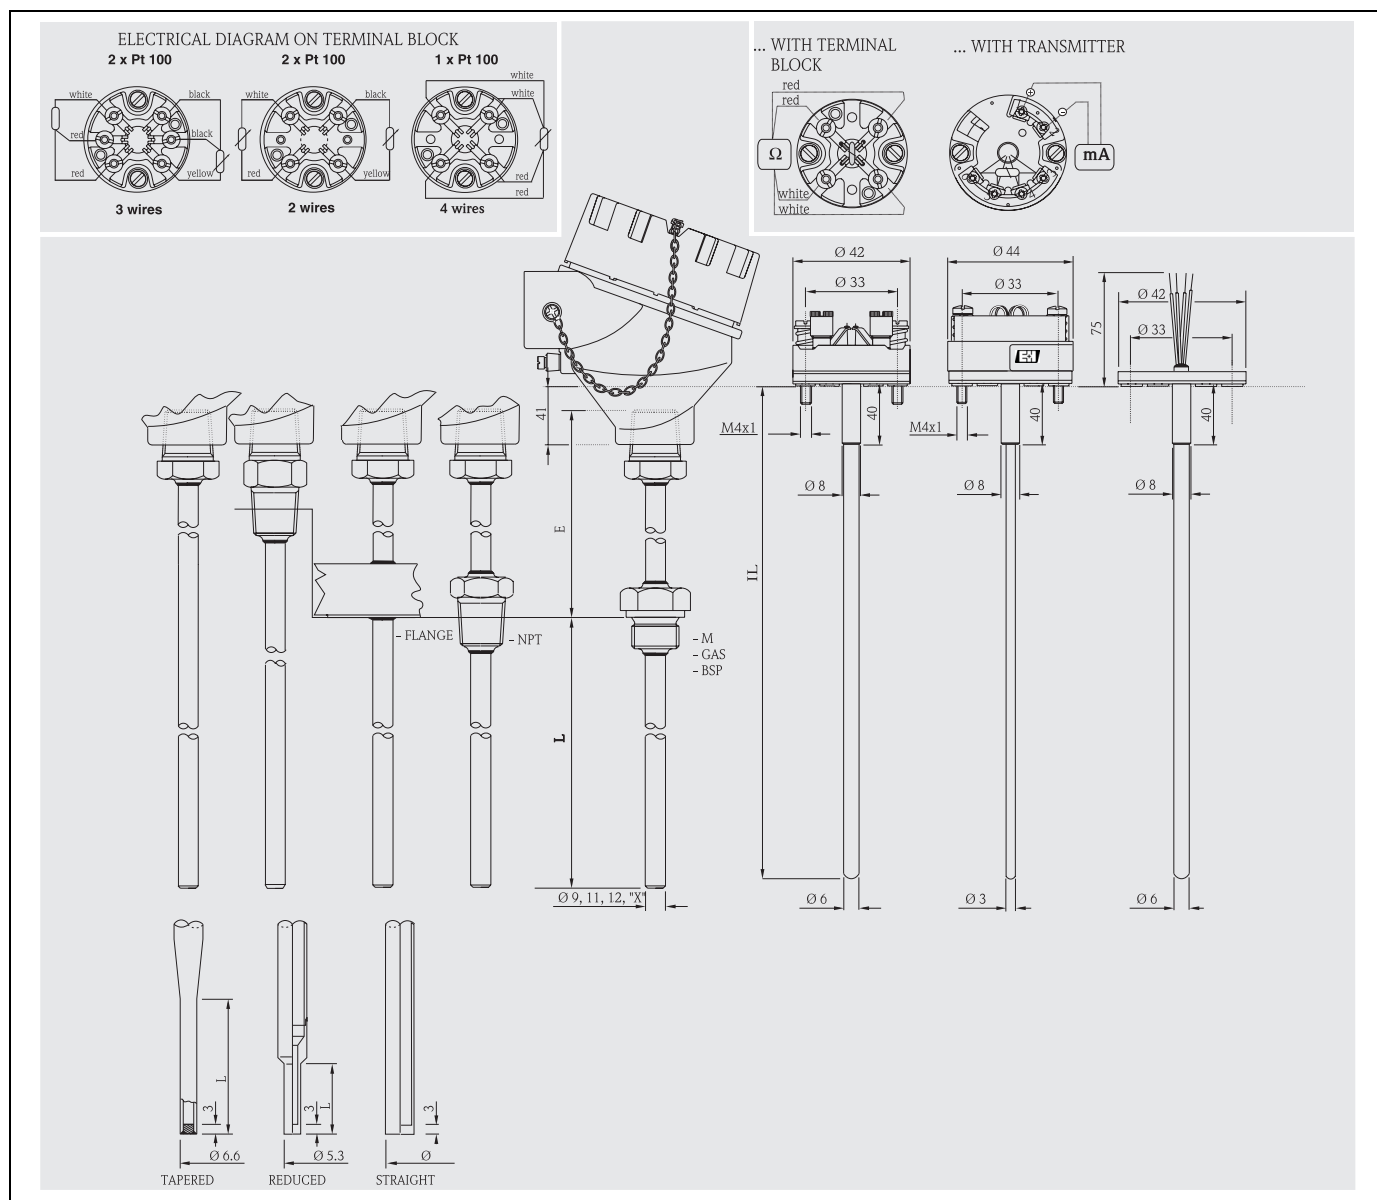

Fig. 6: Functional components, standard electrical diagrams (ceramic terminal block), Tip on the end of the probe
For replacement, the length of the insert (IL) must be chosen in compliance with the immersion length (L) of the thermowell (see fig. 6). If spare parts are required, refer to the following table.
Although the wiring diagram of single Pt 100s is always supplied with 4 wires configuration, the connection of a transmitter can be executed with 3 wires as well, by avoiding to connect whichever of the terminals (see fig. 6). The configuration Pt100 double with 2 wires and Pt100 single with 2, 3 and 4 wires are available for the ATEX certified inserts.
With regards to the thermowell, the surface roughness (Ra) of the wetted parts is 0.8 mm, while the various kinds of tips (reduced or tapered) are described in fig. 6;